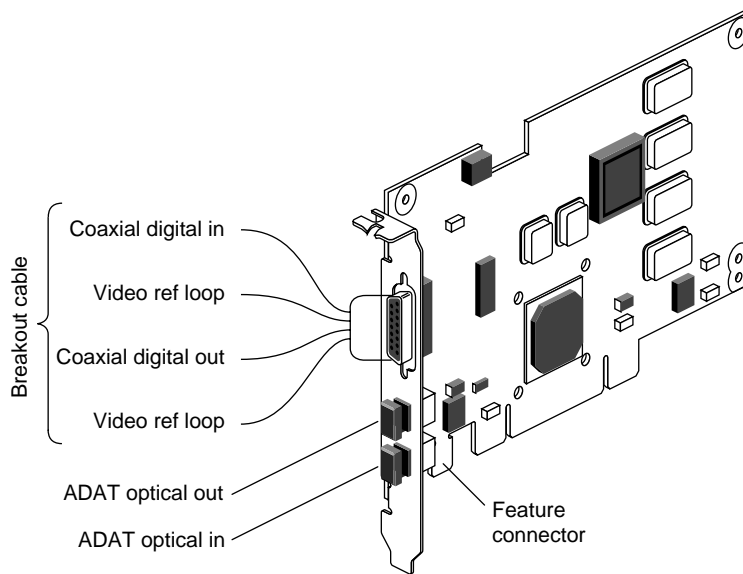

Figure 1-1 PCI Digital Audio Board
- Figure 1-1** PCI Digital Audio Board 2
The PCI Digital Audio Board (Figure 1-1) is a half size PCI expansion board that provides multichannel digital audio expansion via the PCI bus. It connects to consumer and professional audio and video equipment via industry-standard interfaces. If your workstation has multiple PCI slots, you can install multiple PCI Digital Audio Boards for more channels of synchronized digital audio. To determine the maximum number of boards you can install in your workstation or server, see the appropriate section later in this chapter.
Note: The feature connector (see Figure 1-1) is not used in the O2 workstation.
1. Remove the dust caps from the ADAT® Optical interface connectors (see Figure 1-1).
3. Connect the breakout cable to the DB15 connector (see Figure 1-1). The breakout cable supports video synchronization and the AES-3id digital audio standard. The black and green video ref loop cables are interchangeable.